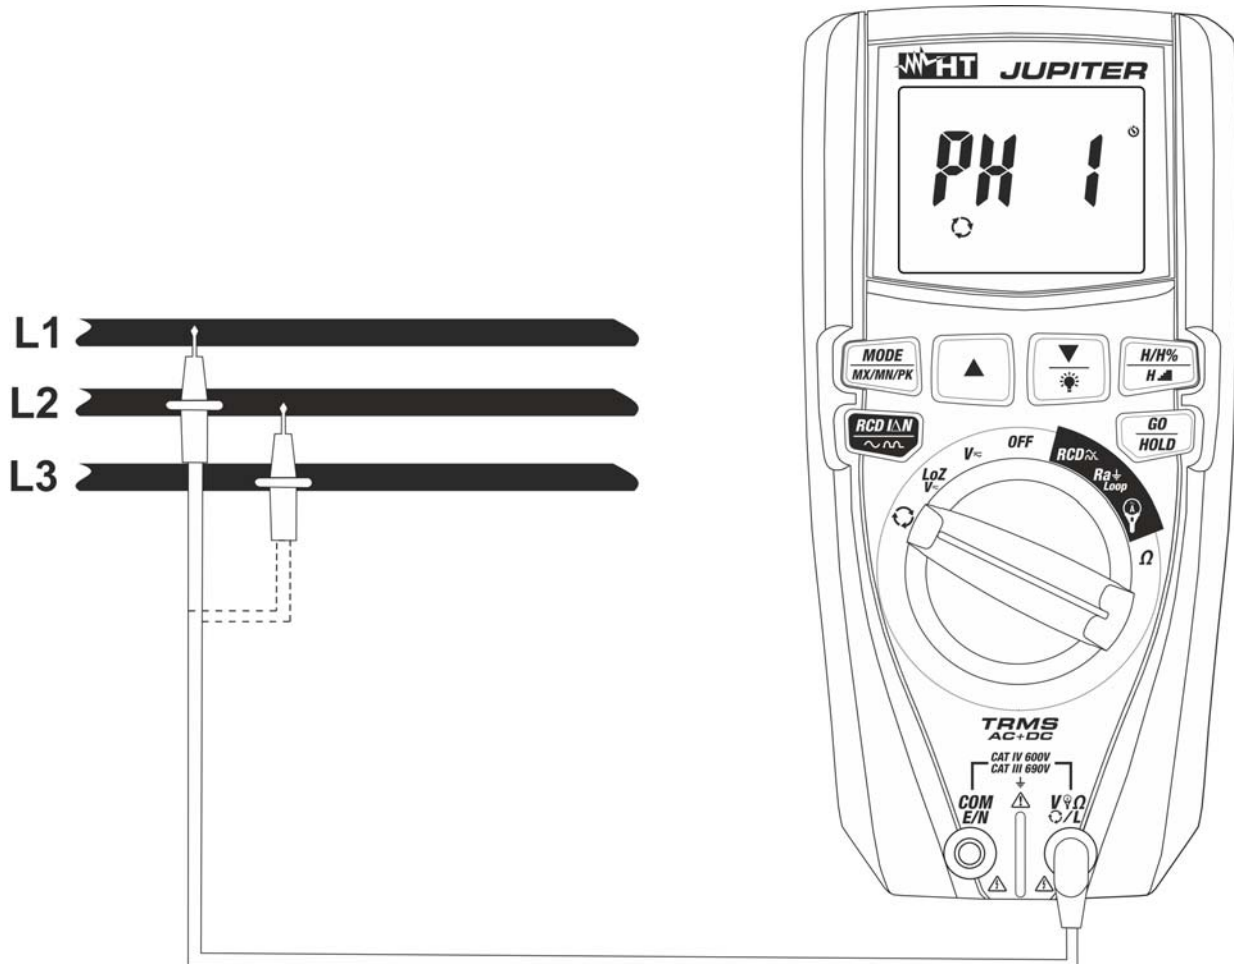
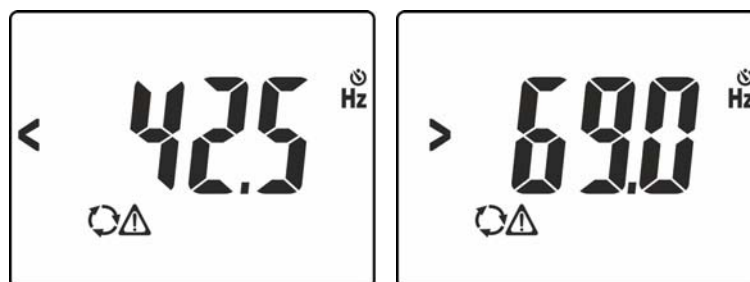
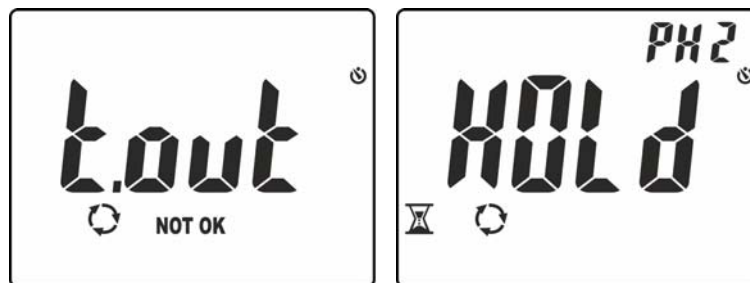

Fig. 12: Use of the instrument for phase sequence and phase concordance test
Fig. 13: Signal of voltage with wrong frequency
Fig. 15: Detecting phase L1 and waiting for phase L2
3. Position the red lead onto phase **L1** of the three-phase system to be tested (see Fig. 12). The following messages may appear on the display (see Fig. 13) to identify the presence of a voltage signal with frequency out of range **42.5Hz ÷ 69Hz**. In these conditions, the instrument does not perform the test.
6. Position the red lead onto phase **L2** of the three-phase system to be tested (see Fig. 12). In case passage between phase L1 and phase L2 takes more than **10s**, the instrument shows message “**t.out**” on the display (see Fig. 15 – left side). In conditions of correct voltage and frequency, the instrument shows message “**HOLD**”, symbols  and “PH2” and the buzzer sounds continuously, waiting for a stable voltage value on phase L2 to be detected (see Fig. 15 – right side)